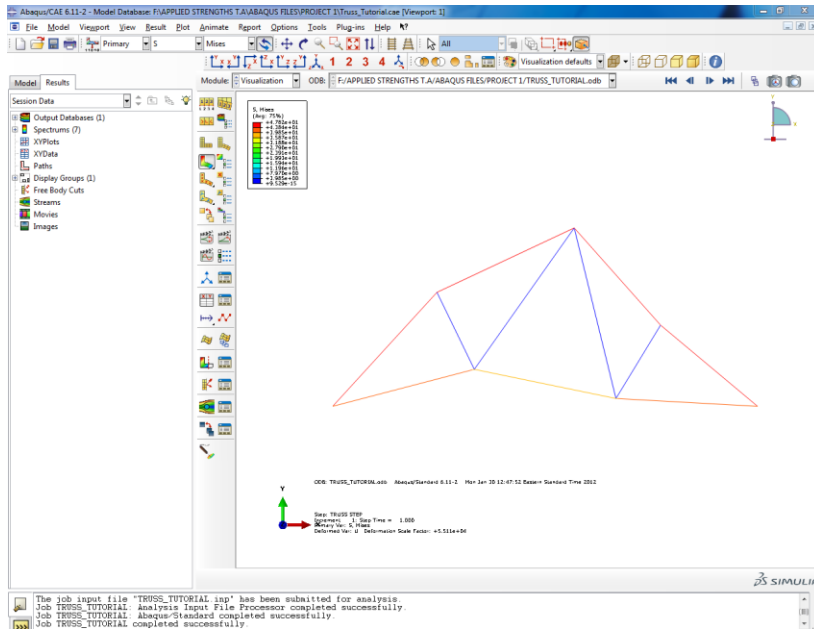

Figure 38. Deformed Shape
- To view the deformed shape of the model, click the **Plot Contours on Deformed Shape** icon  in the **Visualization** module. The model should look similar to that in Figure 38.